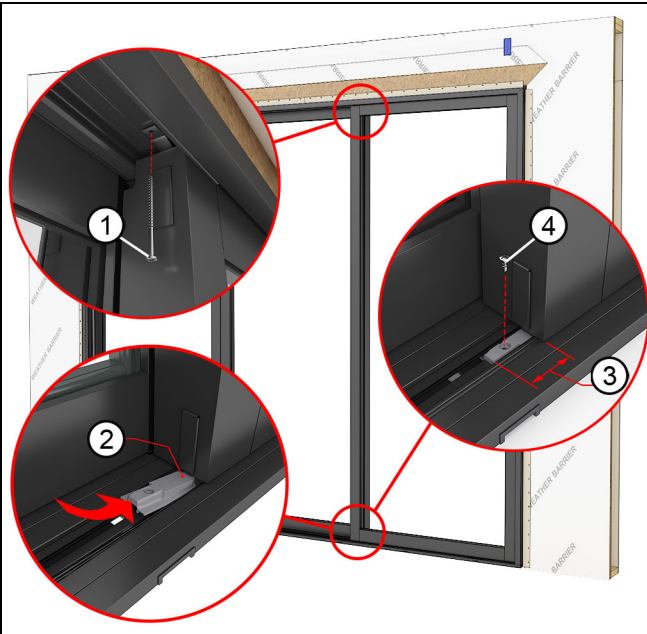

Figure 104
12. Secure the exterior (C) stationary panel with a #8 x 1/2" Phillips self-drilling screw through the bottom stationary bracket into the sill. Bend the top stationary bracket of exterior panel up against the head jamb, pre-drill a 3/16" hole through the head jamb using the bracket as a template. Fasten through the bracket into the head jamb framing with a #10 x 3" installation screw. See Figure 104.